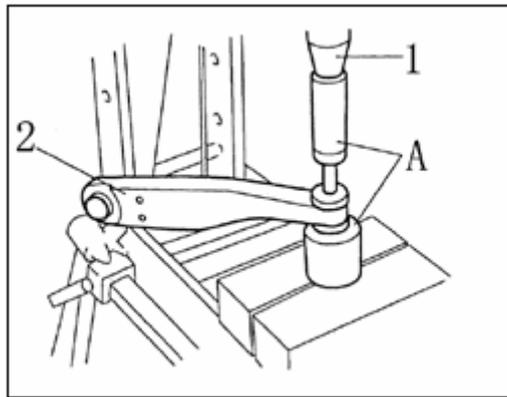

FIG.14-22
Disassemble the rubber bush by using specified tool (A) (FIG.14-22)
- (1) Compress bushing by using specified tool (A) (FIG.14-22).